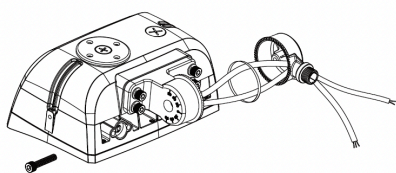

Fig 1.1
1. Align the rubber gasket to the Knuckle Mount. Then pull the wire through the hole of the bottom part of the Knuckle Mount (Fig. 1.1). Do not pinch the wires.